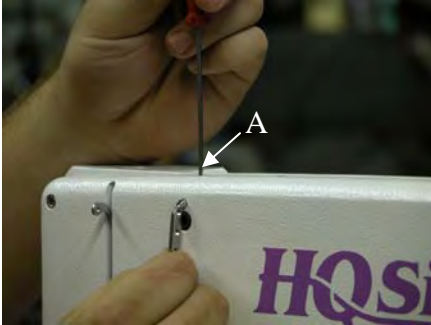

Figure 2.1
1. Loosen the set screw A in Figure 2.1, rotate the thread guide 3 to allow access to the frame screw, then re-snug. (2mm handle allen tool)